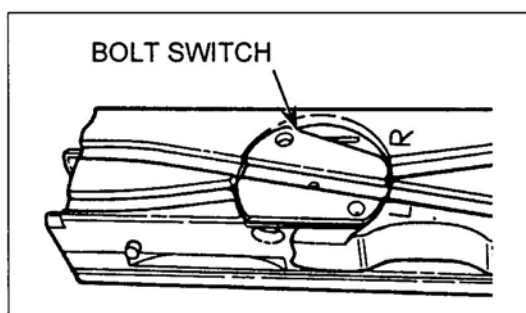

Figure 37. Setting the bolt switch.
- (13) Place cocking lever in forward position. Determine the direction of feed before installing the bolt switch. Figure shows left-hand feed.
- (14) Place bolt switch in position so that the feed groove is continuous for feed direction indicated (Figure 37).